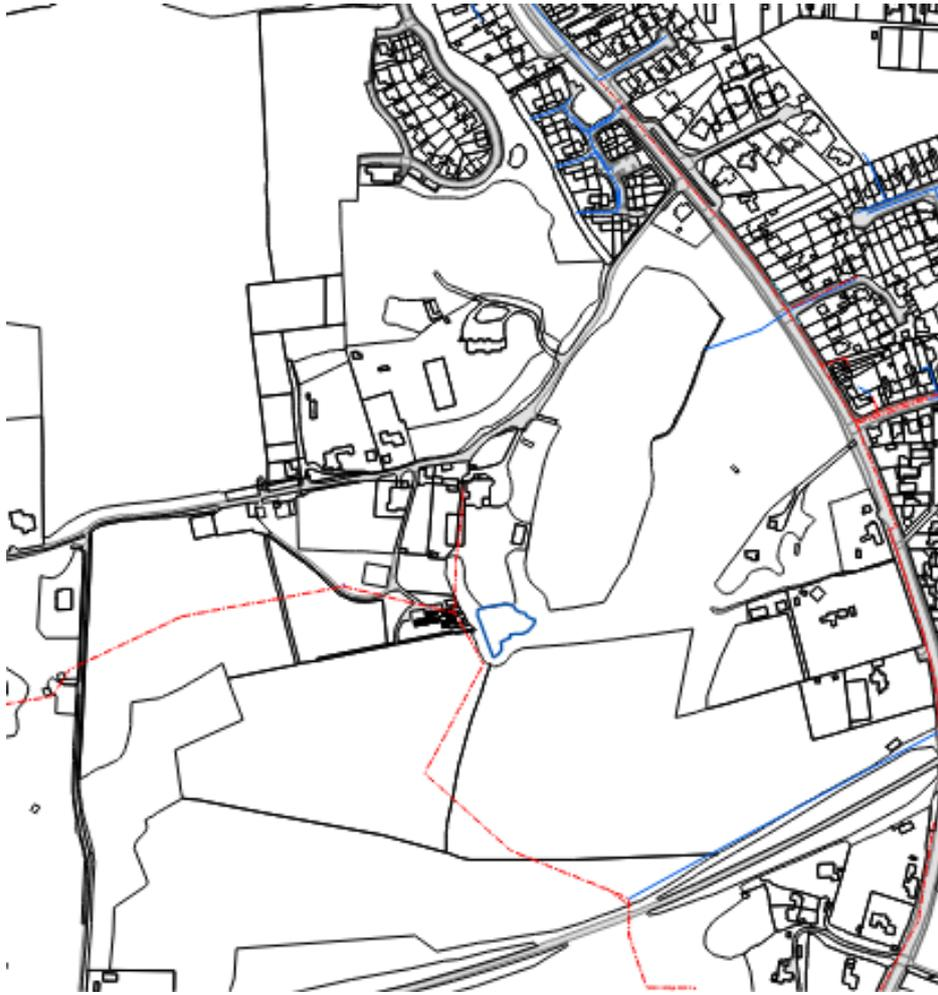

Figure 7: Existing Thames Water foul (Red) sewer network
4.7.3 Thames Water is responsible for sewer assets in the area with foul sewers infrastructure routing through the development to the centre of the site to serve the Huntsland properties (Figure 7).